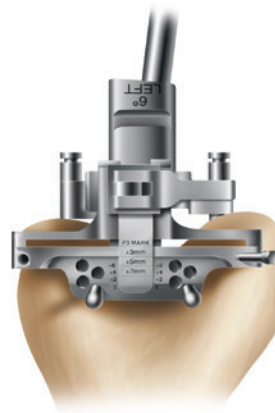

Figure 6
- 1 Using non-headed SPEED PIN®, pin the distal femoral cutting block to the anterior femur using the holes marked '0' unless the guide touches lateral bone. Once adequate distal femoral resection is noted, an additional headed or non-headed SPEED PIN should be placed obliquely to provide additional stability (Figure 6).